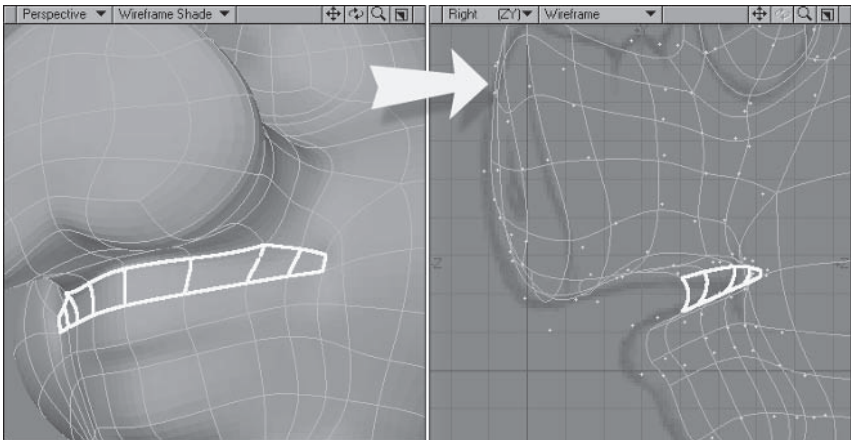

Figure 5.3-34. We typically want the lips to be thicker at the front than at the sides. Stretching the shifted polygons gives us this result.
12. Select the polygons of the mouth shown in Figure 5.3-34. **Extender Plus** and, from the Right view, move the polygons back a little, then **Stretch** the polygons horizontally about **70%**, centered on the corner of the mouth.